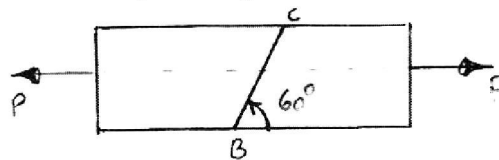

Fig.Q3(b)
- b. A rectangular bar of cross section area of 11,000 mm2 is subjected to a tensile load 'P' as shown in Fig.Q3(b). The permissible normal and shear stresses on the oblique plane BC are given as 7 N/mm2 and 3.5 N/mm2 respectively. Determine the safe value of 'P'. (06 Marks)